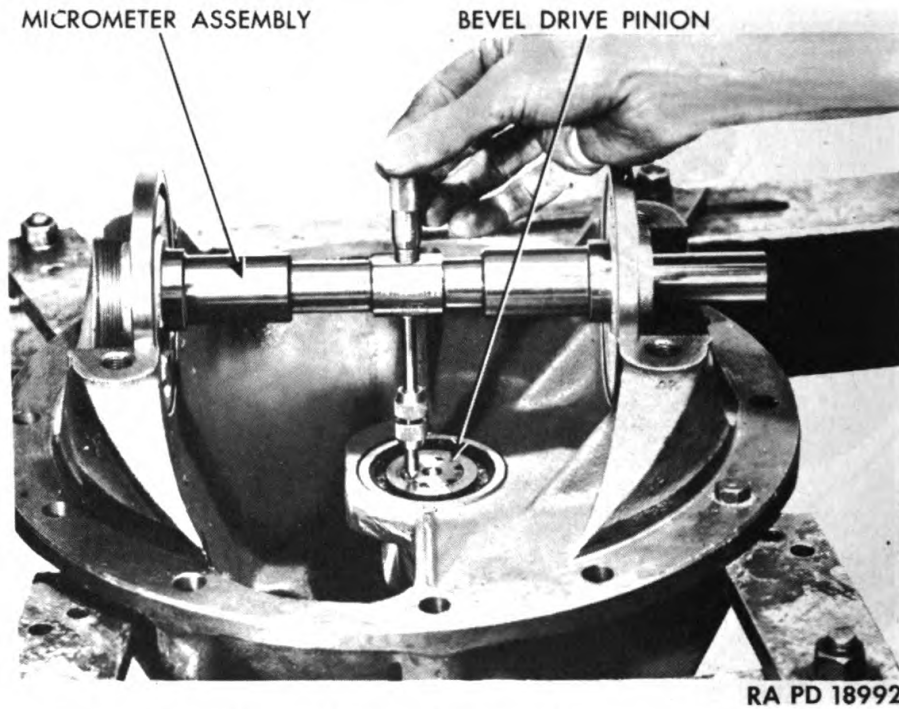

Figure 70 — Measuring Bevel Drive Pinion Cone Center
(2) Invert differential carrier and mount micrometer assembly in carrier bearing bores (fig. 70). Measure distance to end of bevel drive pinion, and write down figures, for example, 3.8177 inches. Subtraction of 3.8047 inches, the corrected theoretical cone center established in subparagraph (c) from actual measure-